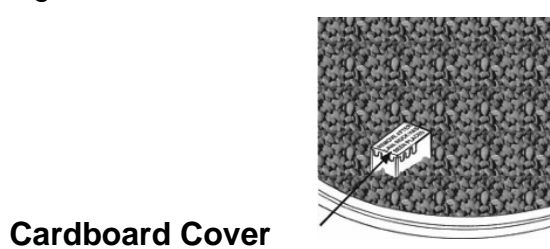

Figure 9
8. Remove the cardboard cover from the ignition well as shown in Figure 9. Remove any fire ice on top of the ignition well.